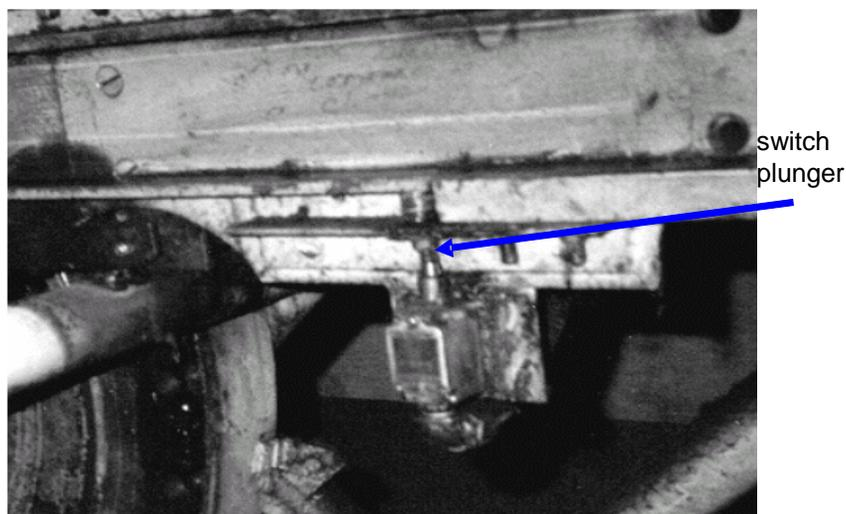

Figure 8-6h Montgomery Combplate Safety Switch (RH)
D. Combplate Safety Device Montgomery only (figure 8-6h); Inspect and Test Operate.